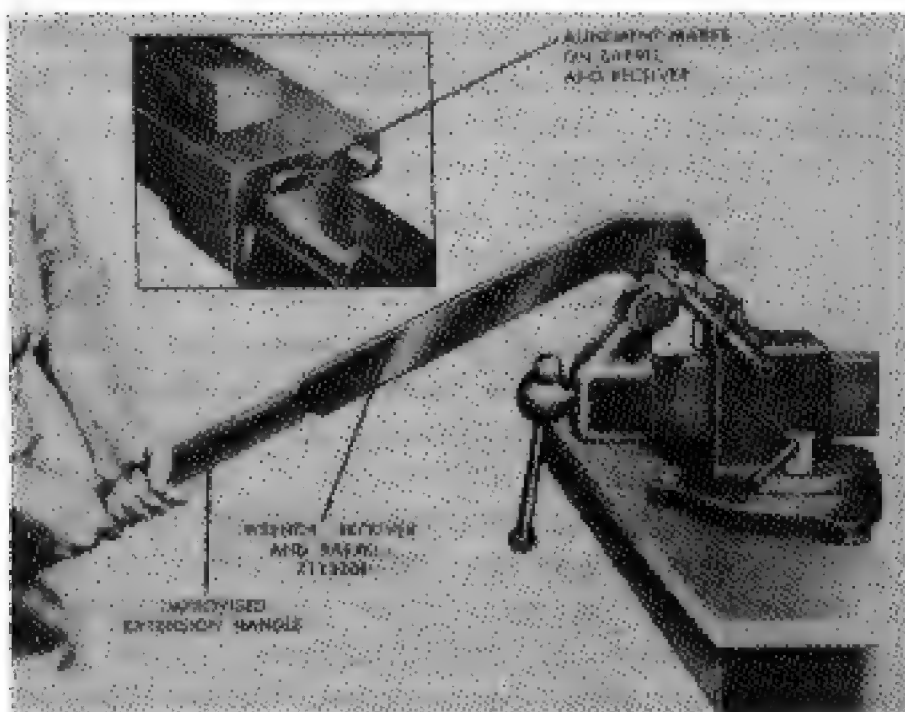
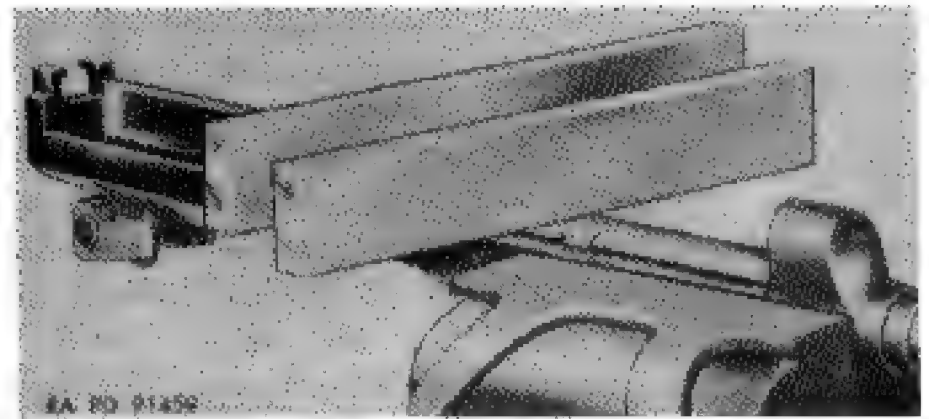

Figure 91. Assembling barrel to receiver.
Figure 92. Checking barrel and receiver alignment.
*a. Replacing Barrel.* Select proper barrel and receiver combination so that about 1/16-inch draw is obtained when assembled. Screw the receiver on the barrel with receiver and barrel wrench 7113308 draw up receiver until alignment marks on barrel and receiver (Fig. 91) coincide. Then determine that the flat surfaces on bottom of barrel and receiver are parallel. Check this by indicator or placing two bars, about 10 inches long, in position as illustrated in figure 92; and sight over the edges. When the two bars lie parallel, the barrel and receiver are in exact alignment for proper functioning.